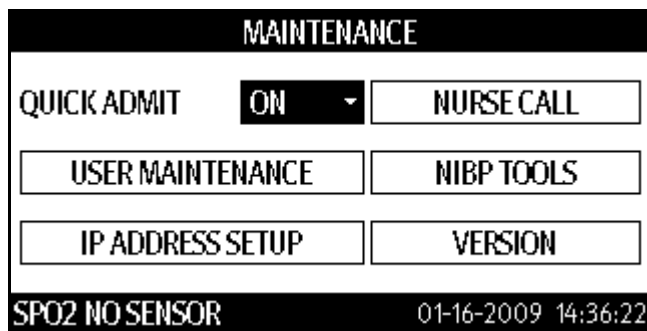

FIGURE 4-5 MAINTENANCE dialog
3. Once **MAINTENANCE** is highlighted, press  (18) to display the MAINTENANCE dialog as shown in FIGURE 4-5.
4. Once **MAINTENANCE** is highlighted, press  to display the MAINTENANCE dialog shown in FIGURE 4-5.